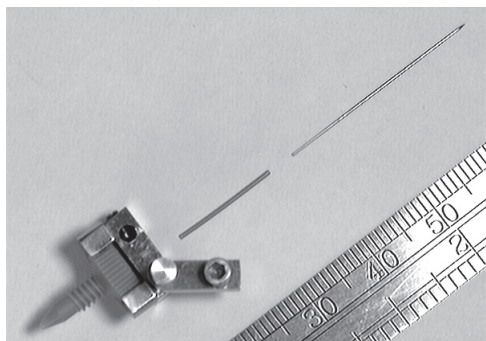

Figure 20
1. Select the proper 0.025" OD PEEK™ tubing sleeves to match the OD of your PicoTip and transfer line (Figure 20). Cut a 14 mm length sleeve.
2. Trim the PicoTip sleeve to 13-14 mm with a sharp utility knife. Use a sharp blade to reduce the risk of collapsing or kinking the sleeve (Figure 20).